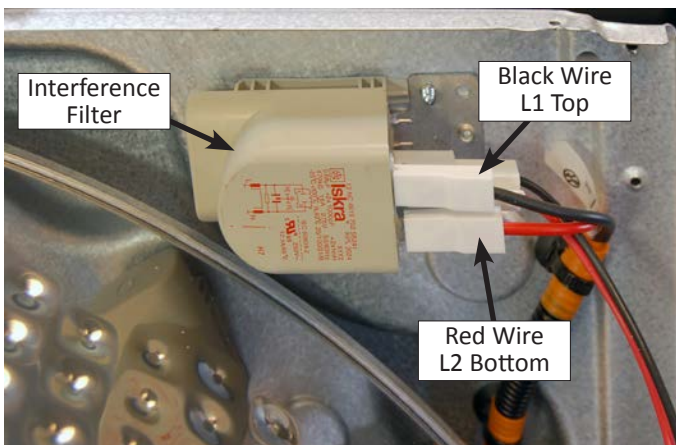

Figure 1
- Remove the harnesses from the Interference Filter (see Figure 1).